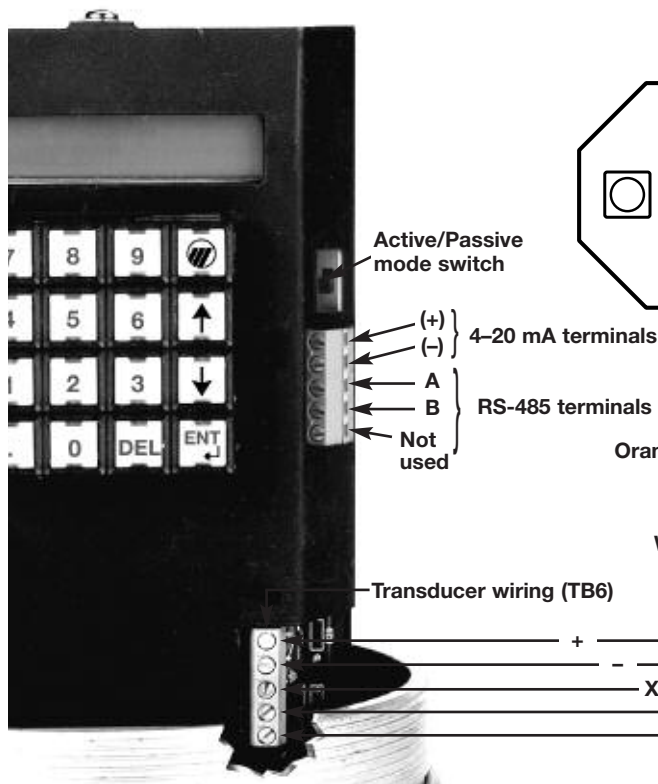

Figure 5
The transducer cable consists of two twisted pairs of wire, wrapped with a shield. Each wire is labeled for identification. Refer to Figures 5 and 6.
If transducer housing is provided, use the connecting cable ordered with the remote transducer housing. Connect the transducer cable between the terminal block in the transducer housing to TB6 in the transmitter. Be sure to connect wires to appropriate terminals. Refer to Figures 5 and 6 on page 8.
A shielded twisted pair should be used for the 4–20 mA output. The + and – connections are made at the terminal block to the right of the 16-button keypad as shown in Figure 5 on page 8. The shield is connected with a female disconnect to a connector located in the housing base, just below the sensor connections. The loop is optically isolated, has non-grounded outputs, and can drive a 1000  $\Omega$  load.
**NOTE:** The output may be either an active or passive 4–20 mA. If passive mode, customer must provide loop power. Figure 5 on page 8 shows the Active/Passive mode switch.
A shielded twisted pair should be used for the RS-485 wiring. The “A” and “B” connections are made at the terminal block to the right of the 16-button keypad as shown in Figure 5 on page 8. The shield is connected with a female disconnect to a connector located in the housing base, just below the sensor connections.
4. Connect the “A” wire from the control room converter to the terminal marked “A” on the RS-485 terminal block located to the right of the 16-button keypad as shown in Figure 5.
5. Connect the “B” wire from the control room converter to the terminal marked “B” on the RS-485 terminal block located to the right of the 16-button keypad as shown in Figure 5.